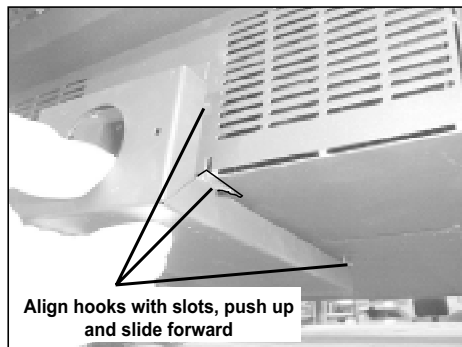

Figure 17.2
2. Align hooks in air channel with slots in convection blower mount and ash box, **Figure 17.2**. Push up and slide forward.